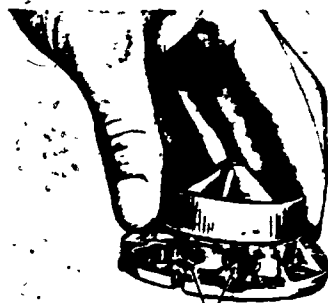

FIGURE 12
4. Remove guide pin, valve, arm, and ball check valves (Figure 12)